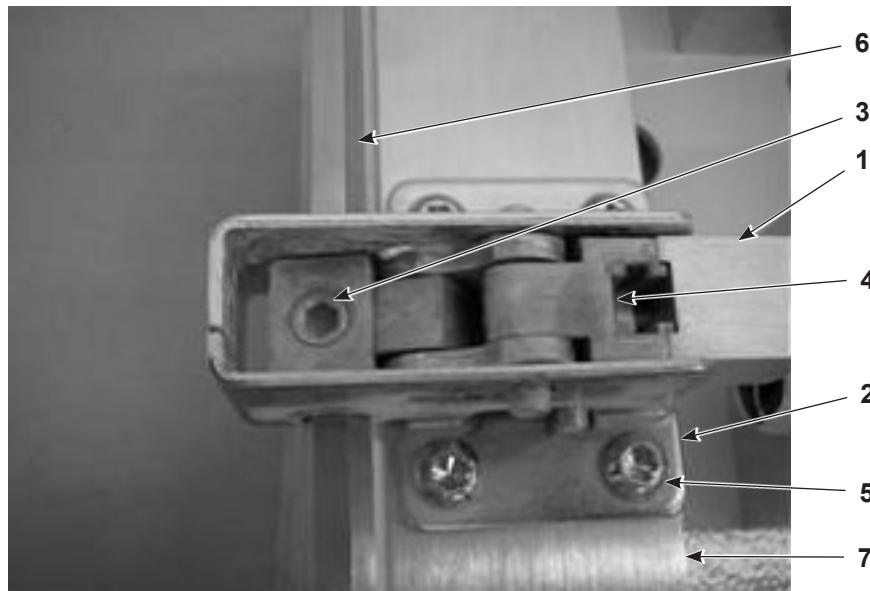

Figure 8-3 Latch Replacement
3. See Figure 8-3. Grasp the cylinder clevis and pull the cylinder shaft out to the fully extended position to extend the latches and provide access to the latch set screws (3).